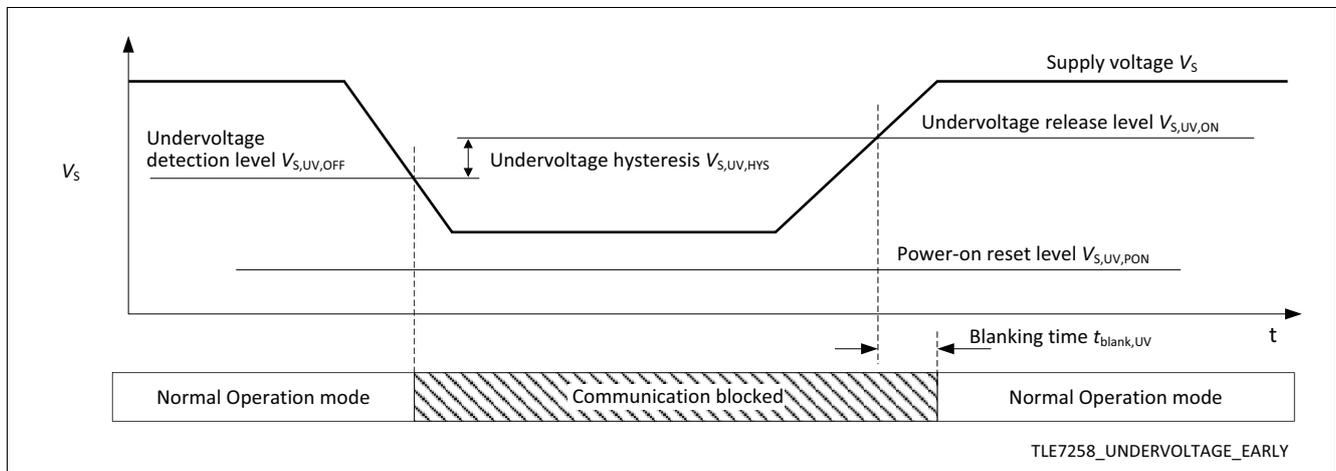

Figure 11 Early undervoltage detection
- In normal operation mode the TLE7258 blocks the communication between the LIN bus and the microcontroller when detecting undervoltage events. However, no mode change will occur. After  $V_S$  rises above the undervoltage release level  $V_{S,UV,REL}$ , the bus communication interface will be released when the signal on the TxD input goes “high”. See Figure 11.